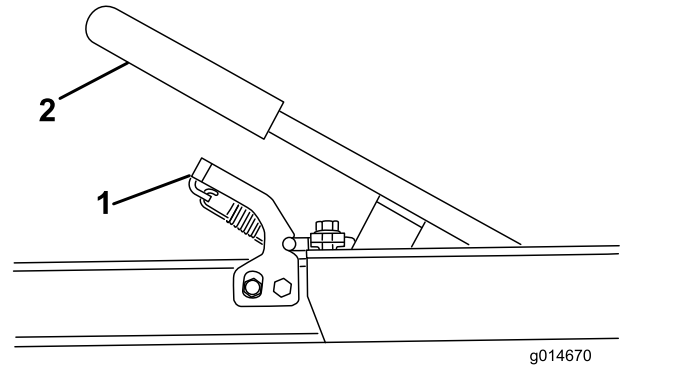

Figure 11
1. While maintaining control of the trailer bed and holding onto the handle, press down on the latch assembly and the lift handle (Figure 11). Lower the trailer bed to the ground.
7. Push down on the handle until the trailer assembly locks into the latch assembly (Figure 11).